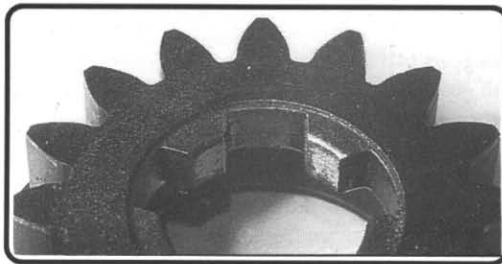

Figure 25. Modified sliding gear.
- 20.3. Grind the lugs on the new gears until they fit loosely on the layshaft. Figure 25 shows a new gear with the inside face of the lugs that have been ground away. Try to grind the same amount off of each of the five lugs.
The gear in figure 25 was initially put on the layshaft without grinding and appeared to work smoothly. When the engine was assembled and put in the car, the transmission didn't seem smooth enough. After dismantling the engine again, it was noticed that the layshaft was scored by the sliding gear.